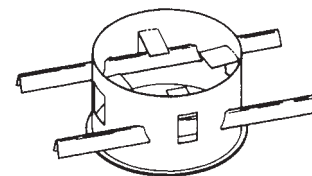

Figure 2
3. Place U-shaped hanger bars through pairs of openings in the side of the Bucket. Note that open portion or U-shaped bar faces downward. Do not use rectangular openings with inward-bent tabs. Instead, pass hanger bars through closest pairs of plain openings as shown in **Figure 2**.